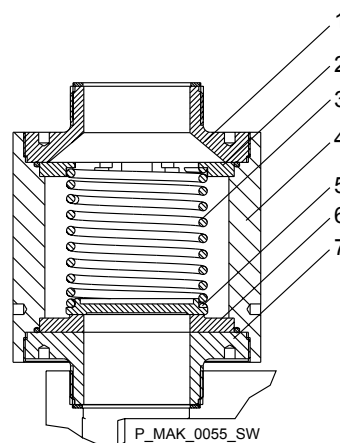

Fig. 22: Section through a plate valve (DN65 shown)
1. ➤ Screw the valve cap (7) on to the suction side - see Fig. 22.
2. ➤ Carefully remove the parts from the valve body (4).
6. ➤ Only DN 65: Insert the perforated disc (2) in the valve body (4).
7. ➤ Place the compression spring (3) inside the valve body (4).